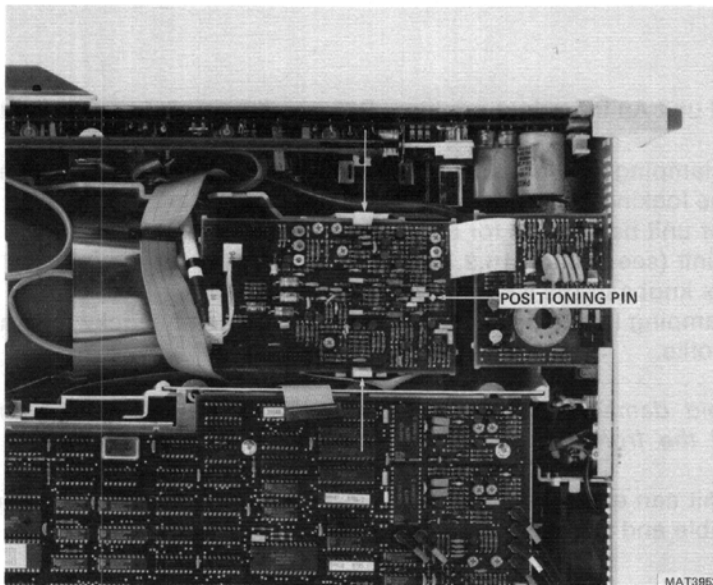

Figure 16.1 Clamping lips for XYZ-amplifier unit
- Pull the clamping lips that secure the XYZ-amplifier unit p.c.b. outwards and take out the complete unit. Refer to figure 16.1.